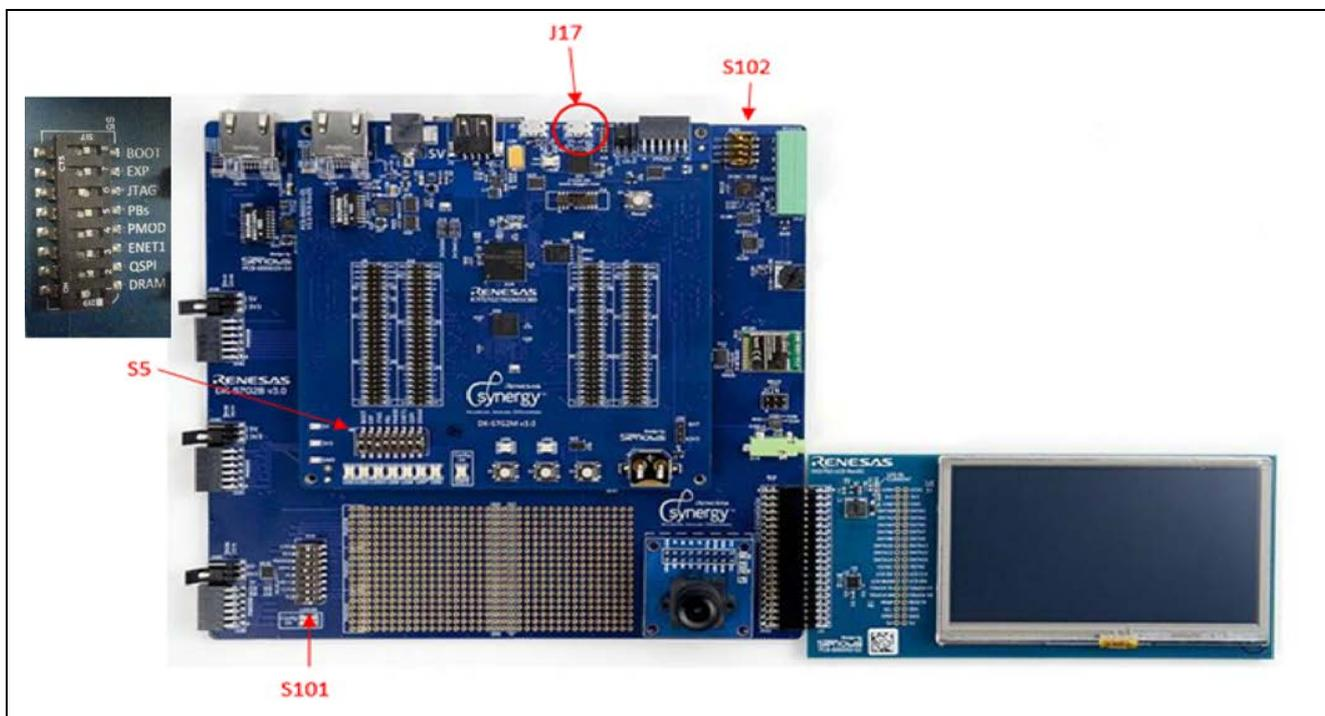

Figure 2. Items to Configure on the DK-S7G2 Board
- A Synergy DK-S7G2 board v3.0/3.1 with the included LCD module (see Figure 2).
Connect the supplied USB cable between J17 of the DK-S7G2 and the PC on which you have loaded the Synergy e² studio software. Connector J17 is the upper right USB port as you look at the board from the orientation shown in Figure 2. For proper operation of the application, use the following table to ensure that the three DIP switches (S5, S101, S102) are set correctly.